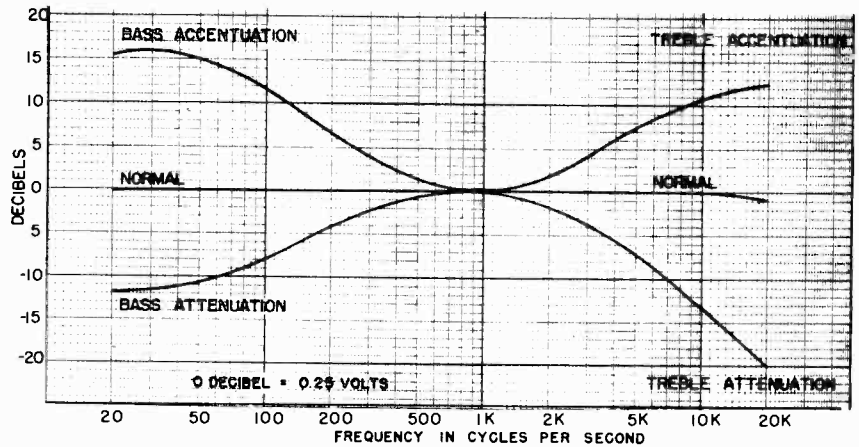

Fig. 2. Audio Characteristic
**AUDIO SYSTEM** - A 5000-ohm audio output socket, furnishing up to 3 volts at less than 1% distortion from 20 to 20,000 cps., (refer to Figure 2) and the associated shielded audio cable have been provided to connect the RC10 into new or existing audio systems. Any audio amplifier, such as the Craftsmen RC2 Hi-Fi Amplifier, with an input impedance of 25,000 ohms or greater can be